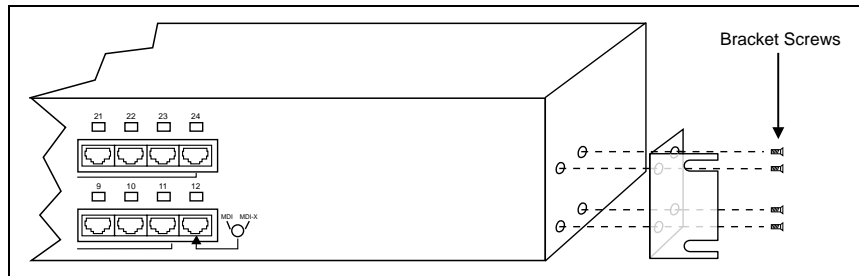

Figure 3-1. Attaching the Mounting Brackets
2. Position the bracket as shown in Figure 3-1, and secure it with the smaller bracket screws. Then attach the remaining bracket to the other side of the repeater.